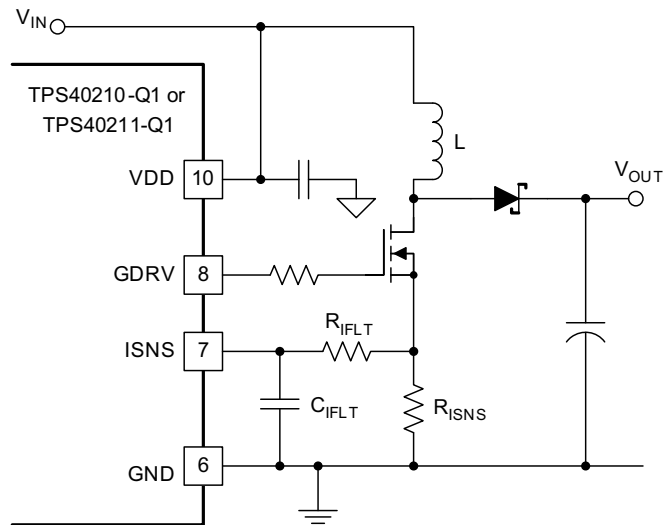

Figure 21. Current Sense Components
- V_D is the drop across the diode in Figure 21
It is possible to increase the voltage compensation ramp slope by connecting the V_{DD} pin to the output voltage of the converter instead of the input voltage as shown in Figure 21. This can help in situations where the converter design calls for a large ripple current value in relation to the desired output current limit setting.
In most cases, a small filter placed on the ISNS pin improves performance of the converter. These are the components R_{IFLT} and C_{IFLT} in Figure 21. The time constant of this filter should be approximately 10% of the nominal pulse width of the converter. The pulse width can be found using Equation 10.